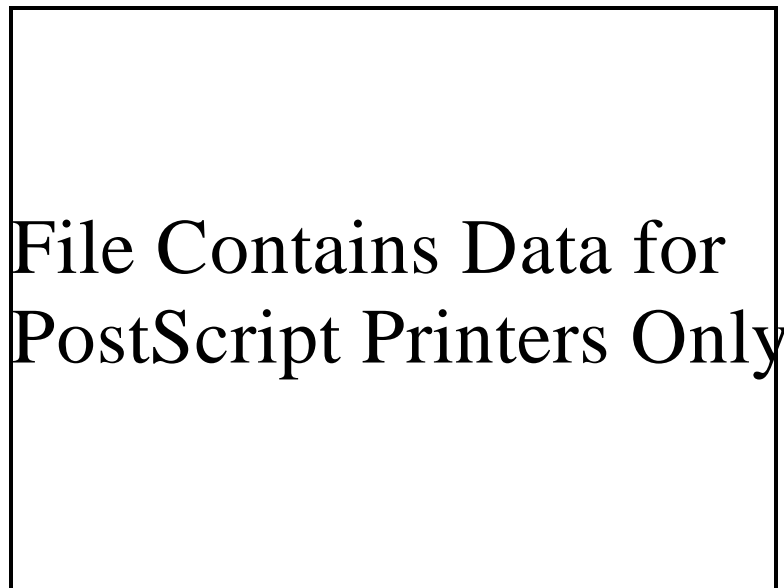

Figure 3-6. Onload/Offload Selection
3.1.4.6.1 Onload/Offload Selection. S&M now permits carriers to have a shuttle situation involving more than one occurrence of the same onload and offload pairs in the itinerary. When you want to access a review or modify function involving the shuttled locations (such as adding allocations or manifests), you will need to indicate to the system which onload-offload pair you want to work with. If the shuttle situation exists, the system will preset to you the Onload Offload Selection screen (Figure 3-6).